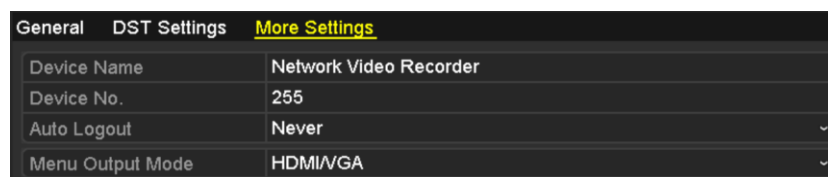

Figure 15. 5 More Settings Interface
2. Click the **More Settings** tab to enter the More Settings interface, as shown in Figure 15. 5.